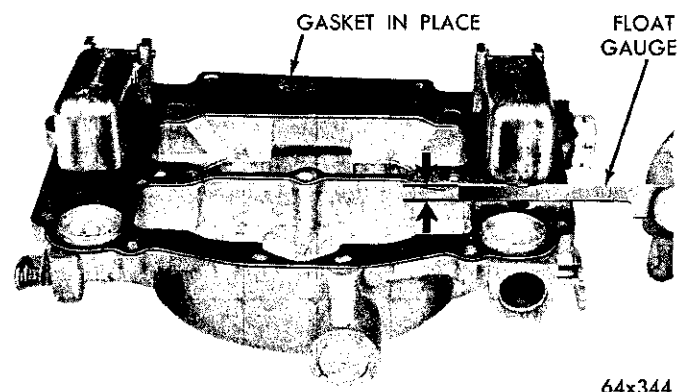

Fig. 16—Measuring the Float Height
(1) With the air horn inverted, the air horn gasket in place and the float needles seated, slide float gauge Tool T109-126 between the top of the float (at outer end) and the air horn gasket, as shown in Figure 16. The float should just touch the gauge.
(2) Check the other float in the same manner. If an adjustment is necessary, bend the float arm, using Tool T109-22, until correct clearance has been obtained. After bending the arm, test the float alignment.